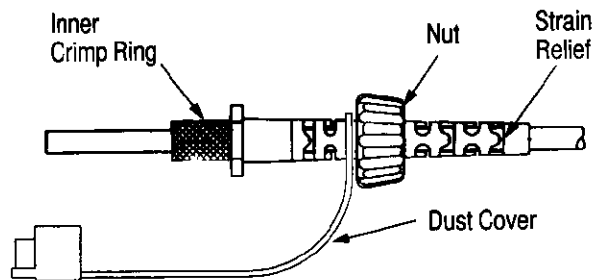

Figure 4
1. Slide the nut, dust cover, strain relief, and inner crimp ring over the cable. Slide the inner crimp ring over the end of strain relief. See Figure 4.